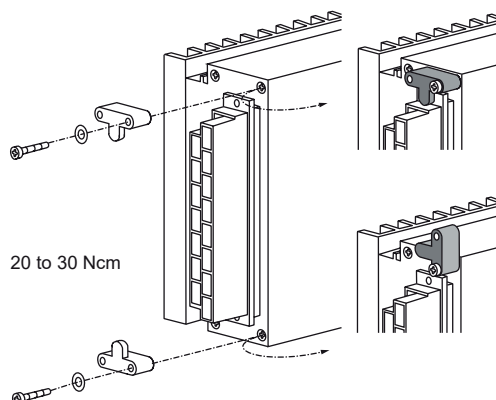

Fig. 33
- Connector retention brackets HZZ01216-G; see fig. 33